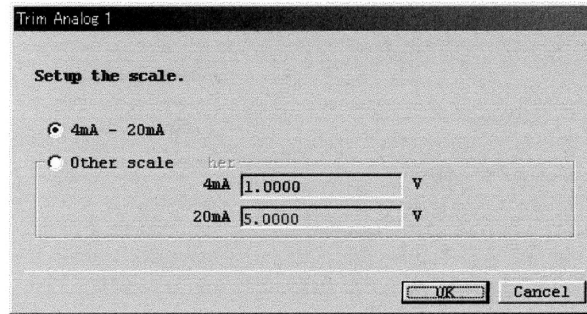
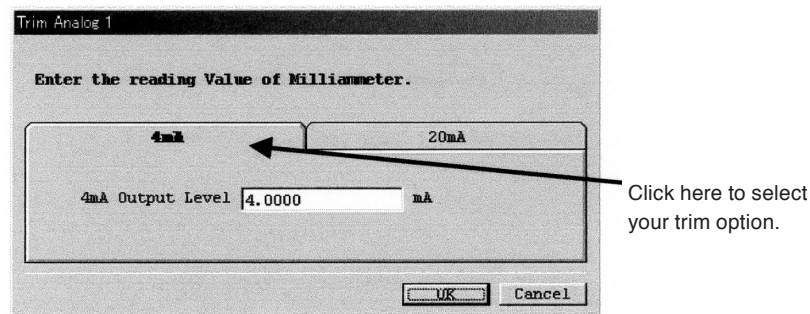

Fig.107
Fig.108
- ③ A window like the one shown in Fig. 107 appears. Select either "4-20mA" scale or "Other scale" for Analog 1 trim, and click on "OK".
- ④ At the window in Fig. 107, select "4mA-20mA" and click on "OK". A window as shown in Fig. 108 then appears, readying for selecting the 4mA or 20mA trim. Make the 4mA trim here, followed by the 20mA trim. Enter the ammeter reading of the current output and click on "OK" button.
- ⑤ To trim the 20mA, click on the 20mA at the message box shown in Fig. 108. Similar to the 4mA trim, make an adjustment until the ammeter connected reads 20mA.